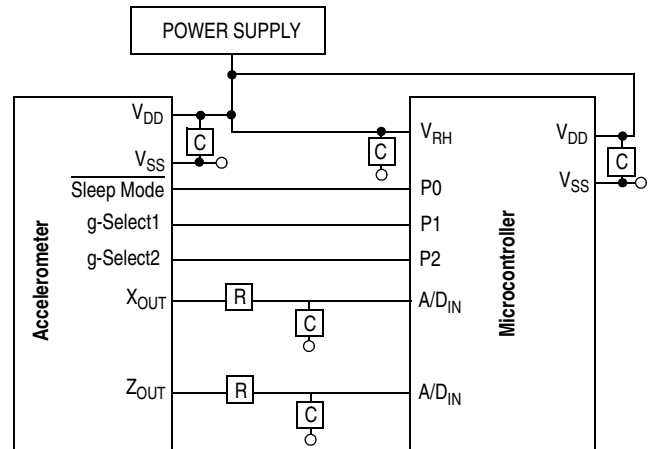

Figure 6. Recommended PCB Layout for Interfacing Accelerometer to Microcontroller
4. Place a ground plane beneath the accelerometer to reduce noise, the ground plane should be attached to all of the open ended terminals shown in Figure 6.